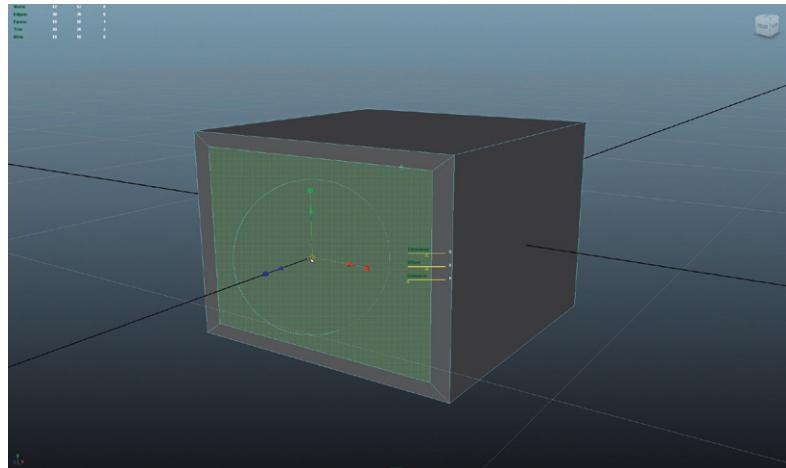

FIG. 3.46 Scaling in all directions at once with the Extrude Tool.
Step 3: Start to create the drawer cavern with the Extrude Tool. Select the front face (in Face Mode) and choose Polygons|Edit Polygons > Extrude. This time, click on one of the cube handles of the Extrude Tool and notice that the middle of the manipulator turns to a light blue cube. Click and drag on that cube and the extruded face will scale in all directions at once – creating a face that pulls away evenly from its old size (Fig. 3.46).